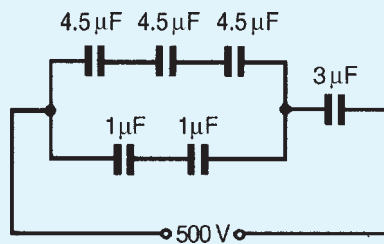

Figure 6.11
6. For the arrangement shown in Fig. 6.11 find (a) the equivalent circuit capacitance and (b) the voltage across a $4.5\ \mu\text{F}$ capacitor.